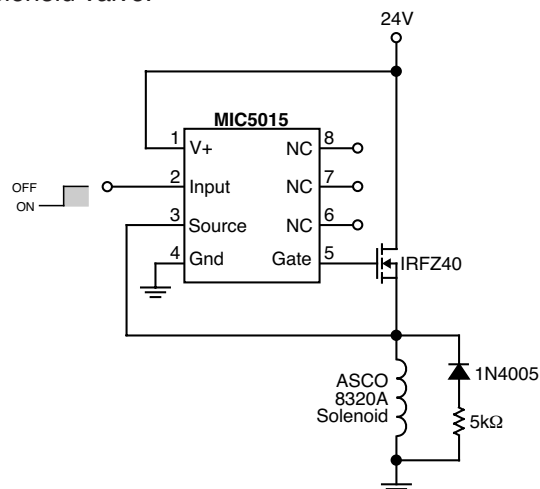

Figure 7: Solenoid Valve Driver
**Solenoid Valve Driver** (Figure 7) High power solenoid valves are used in many industrial applications requiring the timed dispensing of chemicals or gases. When the solenoid is activated, the valve opens (or closes), releasing (or stopping) fluid flow. A solenoid valve, like all inductive loads, has a considerable “kickback” voltage when turned off, as current cannot change instantaneously through an inductor. In most